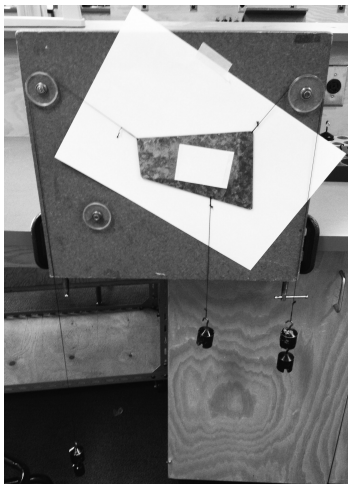

Figure 2: Vertical force board
5. Set up the force board (Figure 2) as directed by your instructor, clamping it securely to the bench. Using the strings and the masses supplied, **set up a system of three forces so that the plate is suspended in equilibrium near the centre of the force board**. Attach the two *longer* strings OVER the top pulleys. Attach the *shorter* string to the bottom of the plate so it HANGS VERTICALLY (does NOT pass over a pulley) and is NOT close to being immediately below the center of gravity of the plate. Thread the strings through the holes in the plate and back upon themselves to secure them - DO NOT TIE KNOTS. Start with 200.g on the pulley strings & 100.g on the vertical string. Make certain all masses DO NOT touch the force board (i.e. hang freely) and that EACH string has AT LEAST 100.g attached to it. Add mass as needed to (roughly) center the plate on the force board. AVOID USING MANY SMALL (<50.g) MASSES.